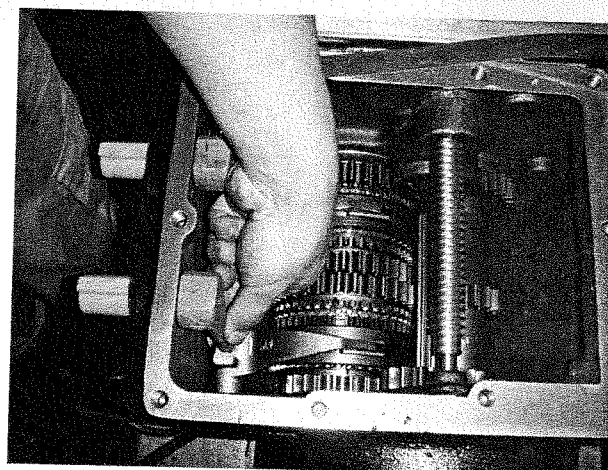

Fig 2-22
(2) Align the poking fork and the slot of engagement sleeve properly, and fit the properly mounted poking fork, and the gear-shift lever into the case (Fig 2-22).